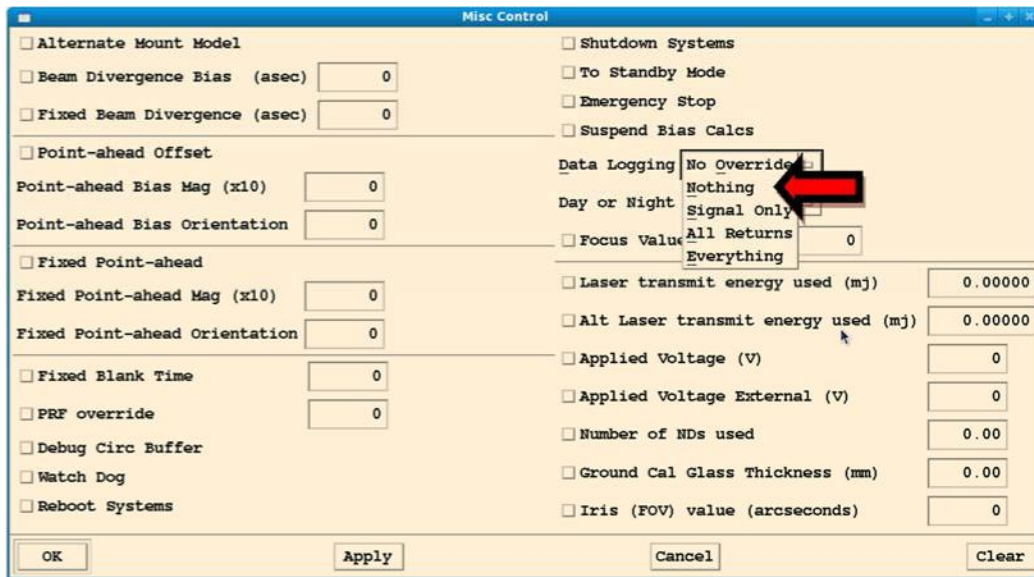

Figure 6-3: Misc Control window
7. **Open the Control => Misc menu** – From the *Data Logging* pull down menu, set *Nothing* (Figure 6-3).
- d. Adjust the ND value under the Misc Control menu as determined previously (Figure 6-3).